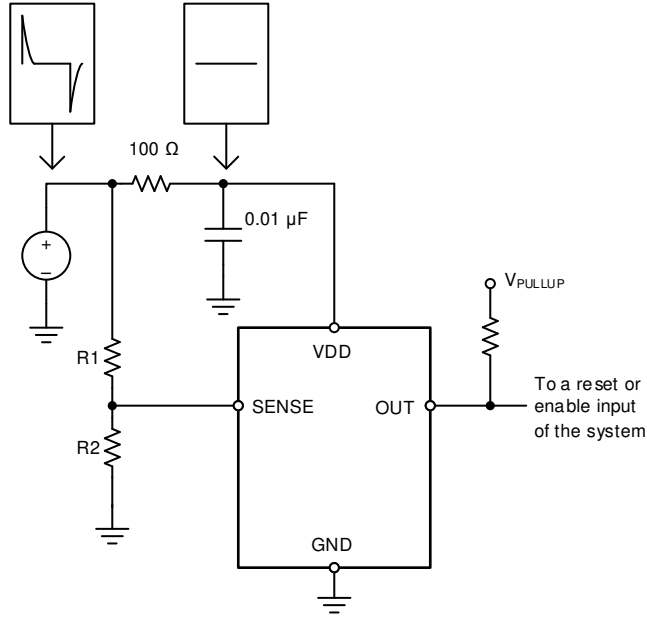

图 7-5. Using an RC Filter to Remove High-Frequency Disturbances on VDD
The TPS3711 has a 40-V absolute maximum rating on the VDD pin, with a recommended maximum operating condition of 36 V. If the voltage supply that provides power to VDD is susceptible to any large voltage transient that may exceed 40 V, or if the supply exhibits high voltage slew rates greater than 1 V/ μ s, then place an RC filter between the supply and VDD to filter any high-frequency transient surges on the VDD pin. In these cases, a 100- Ω resistor and 0.01- μ F capacitor are required, as shown in 图 7-5.
- Avoid using long traces for the VDD supply node. The VDD capacitor (C_{VDD}), along with parasitic inductance from the supply to the capacitor, might form an LC tank and create ringing with peak voltages above the maximum VDD voltage. If long traces are unavoidable, see 图 7-5 for an example of filtering VDD.